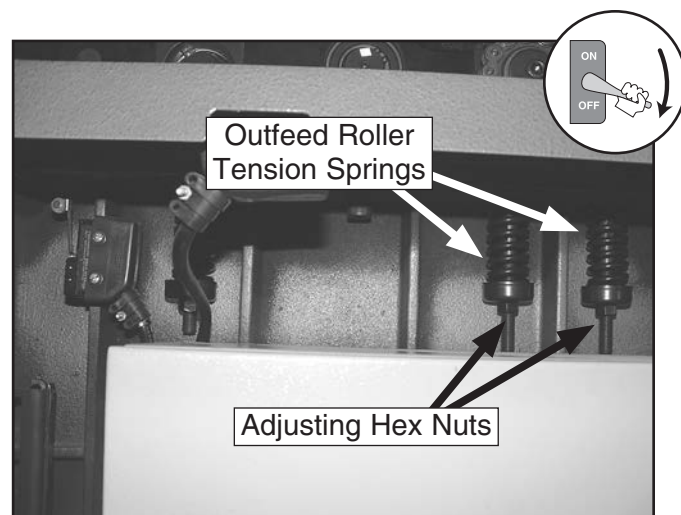

Figure 48. Outfeed roller tension spring (left side shown; top right access panel removed).
2. Remove the top right and left access panels and identify the infeed roller tension springs (see **Figure 48**).